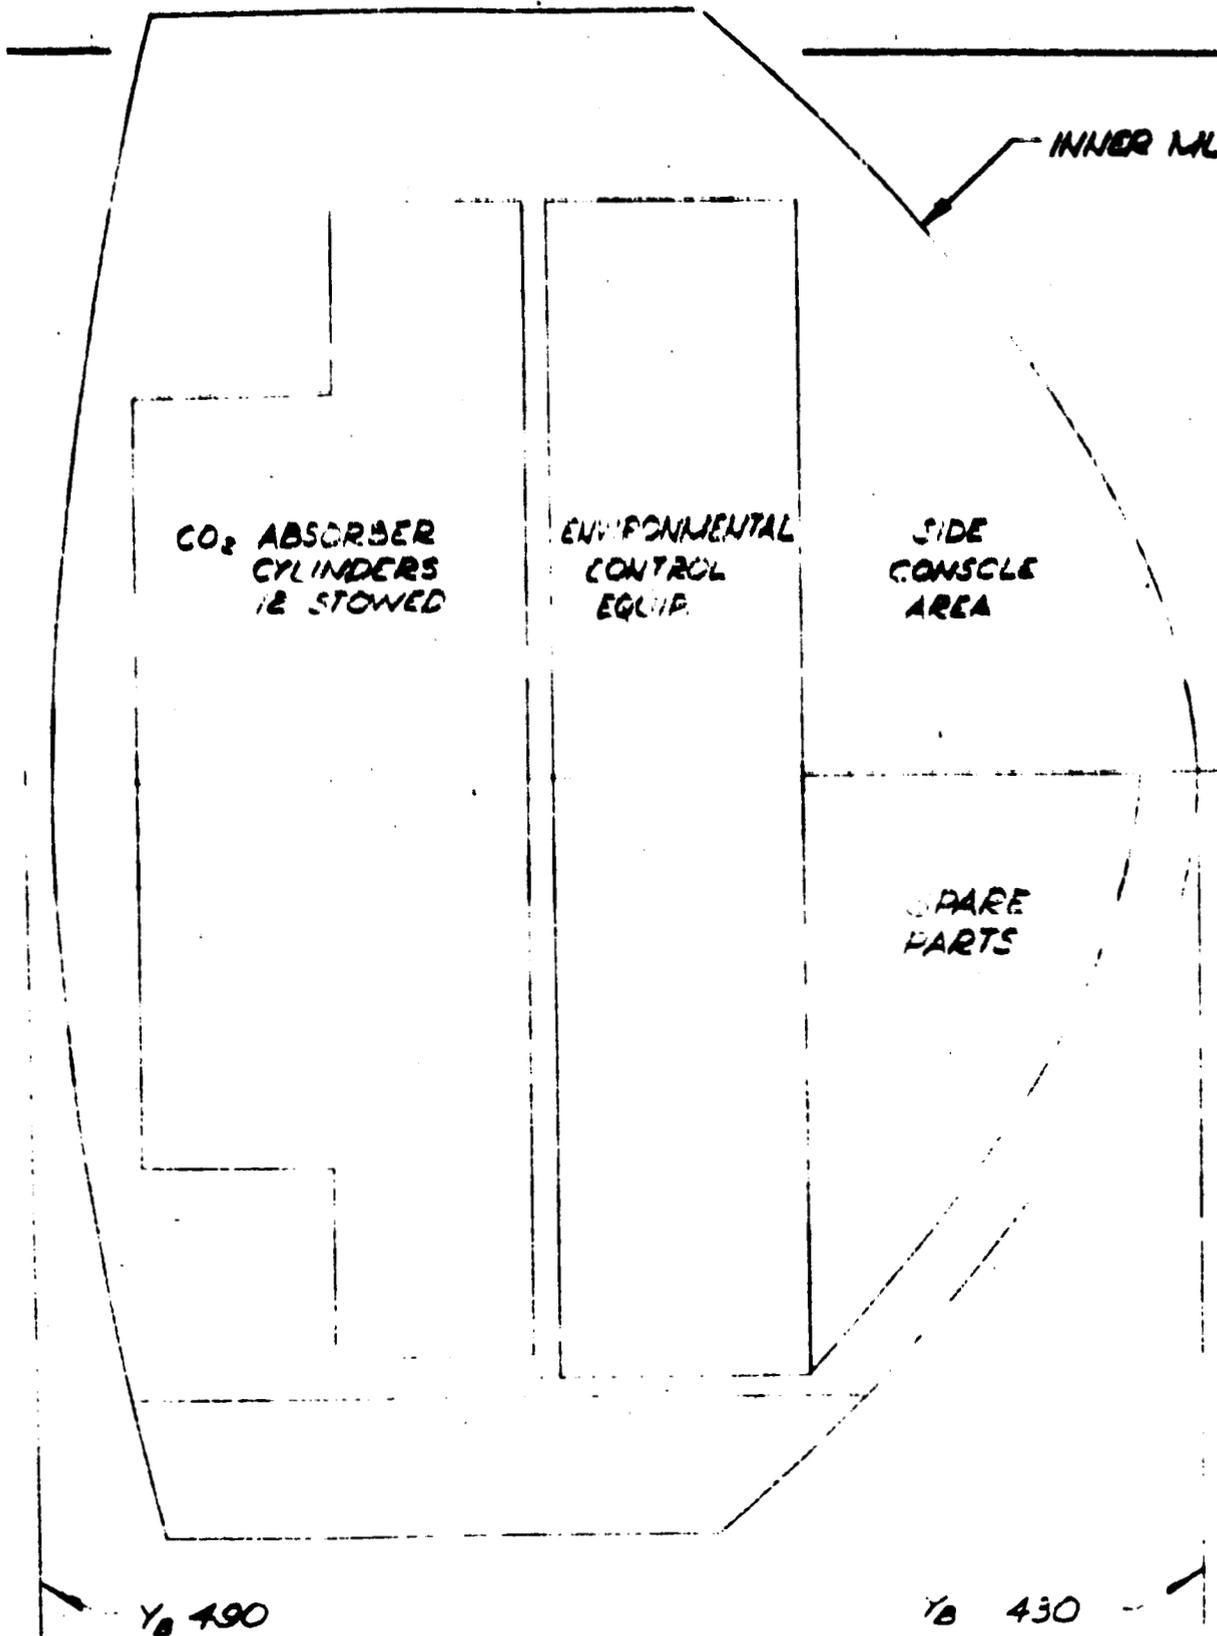

Figure 4. Left Hand Equipment Bay
3. Left Hand Equipment Bay (figure 4)